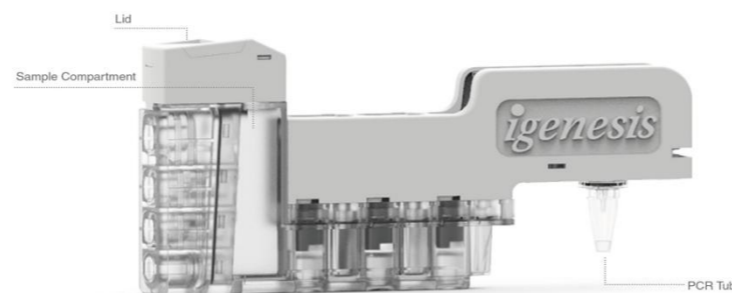

Figure 1 CV/DV/ZV iCassette (Lateral View)
1.3 Open the lid of the iCassette, and pipette 900 μl of sample or controls to the CV/DV/ZV iCassette sample compartment as shown in Figure 1. slowly, close the lid tightly.(Note: After the sample is added to the iCassette, the test needs to start running within 30 minutes)